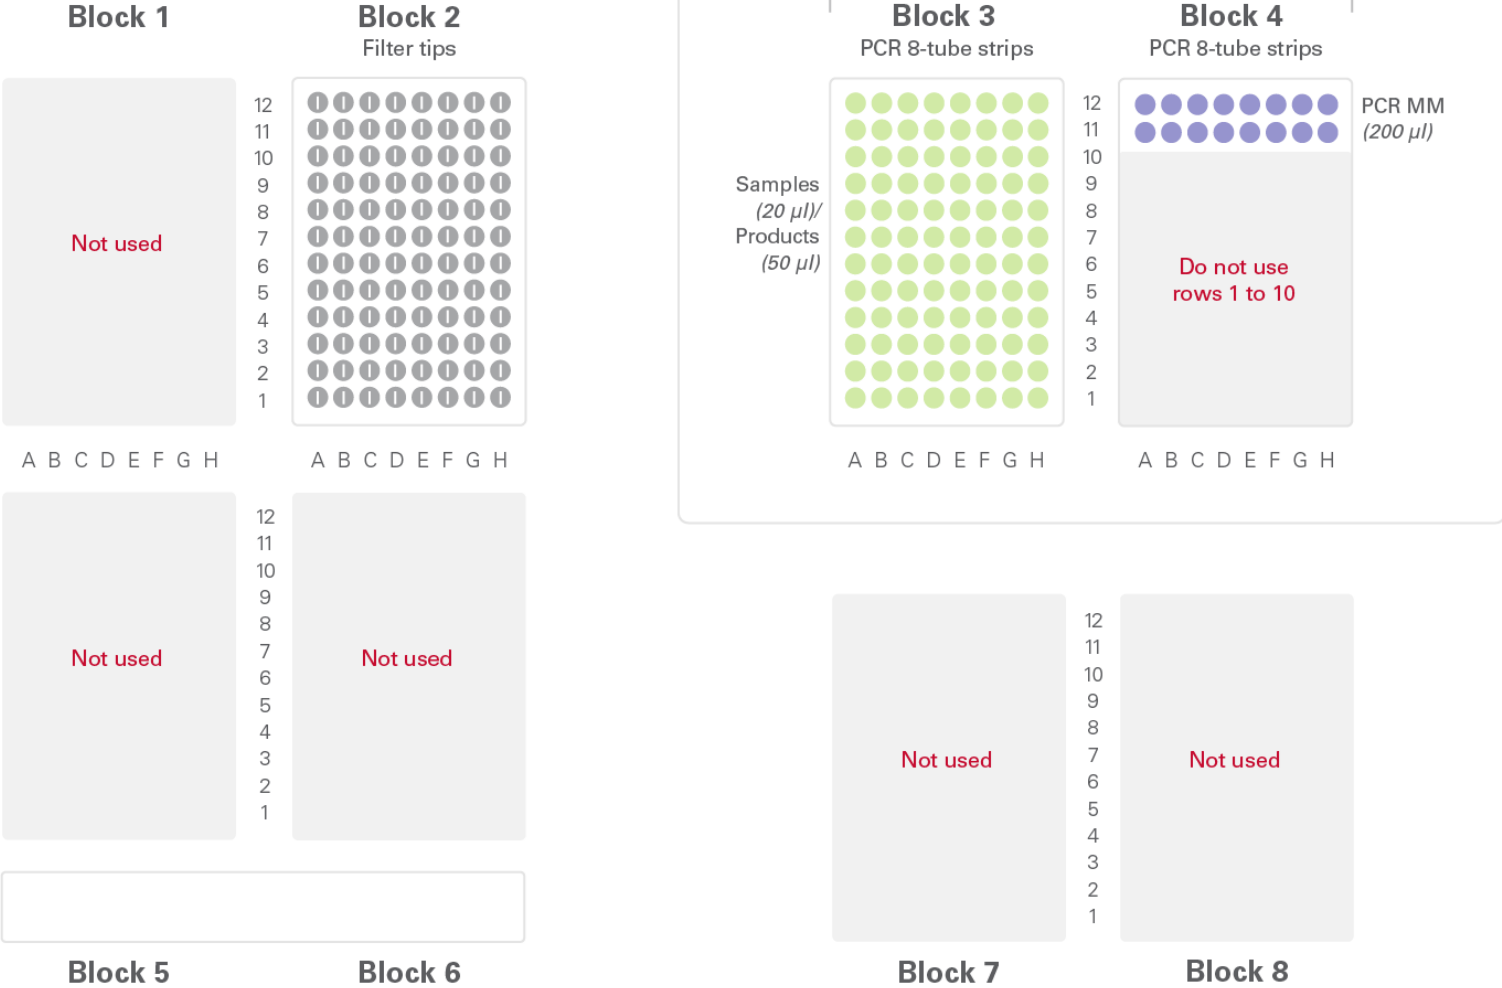
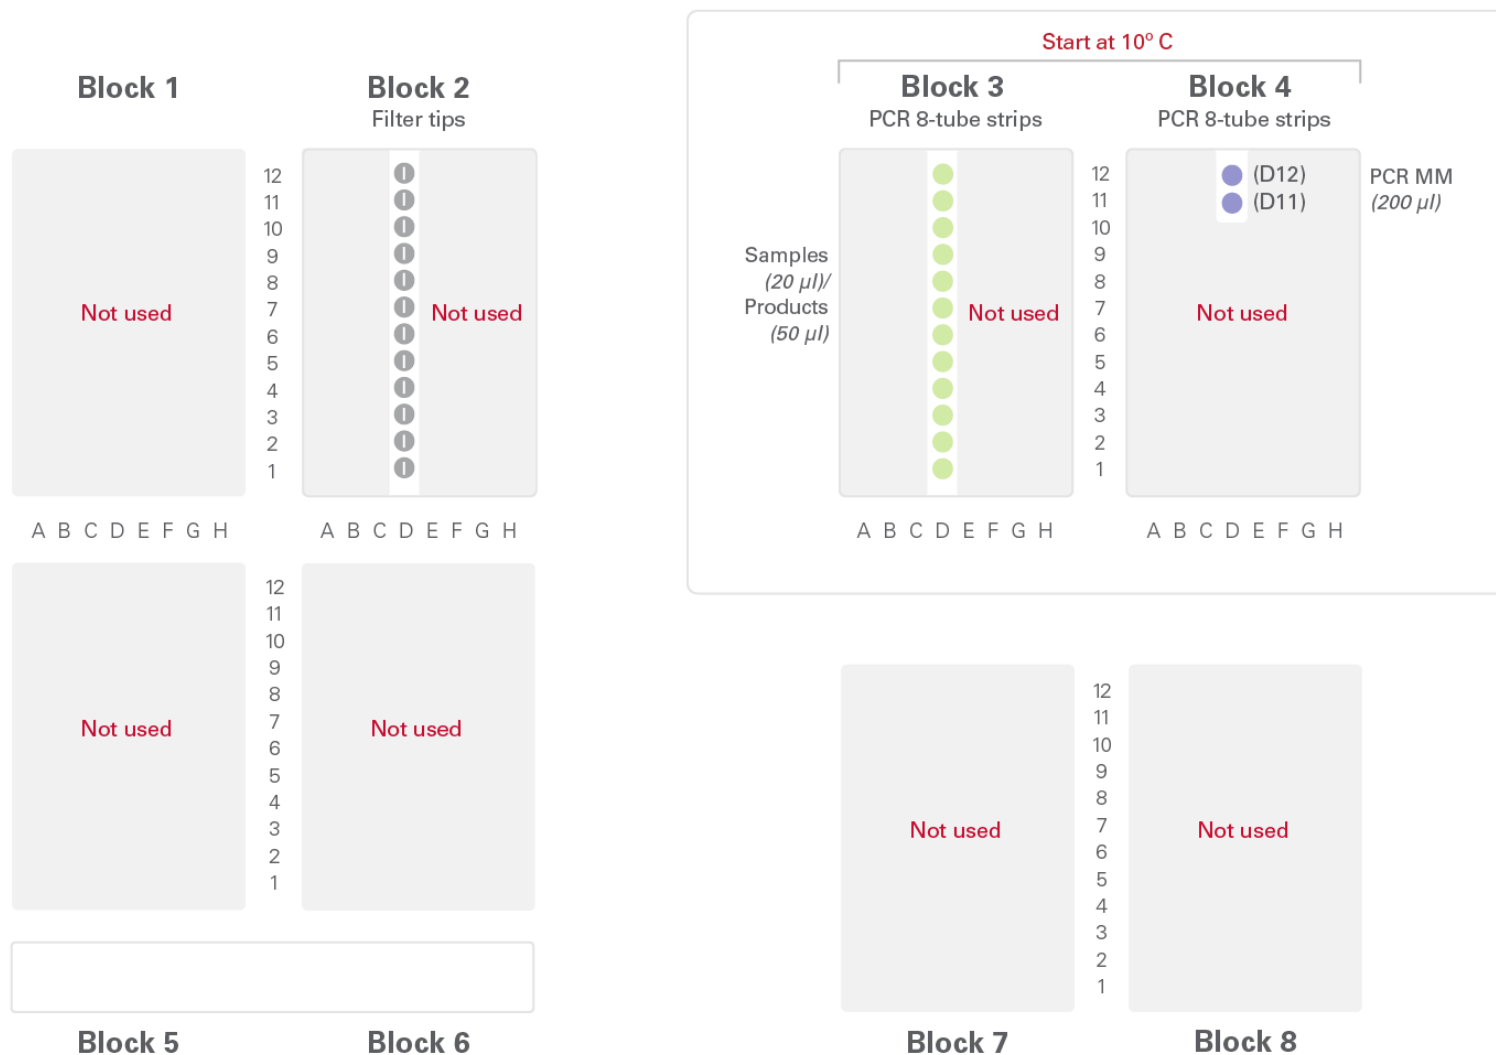

Figure 8. Deck layout for PCR setup from 96 samples. For this protocol, use script `SSv4_3_PCR_96_v1-1.scb`. Run time is 25 minutes.
Figure 9. Deck layout for PCR setup from 12 samples. For this protocol, use script `SSv4_3_PCR_96_v1-1.scb`. Run time is 25 minutes.
4. Load consumables onto the SMARTer Apollo work surface according to the layout in Figure 8 (96 samples) or Figure 9 (12 samples). See Appendix A for deck setup using other sample numbers. First, load the consumables that do not initially hold reagents. Next, on the benchtop, aliquot reagents and samples into the indicated consumables according to the table below, and then load them onto the system just before the run.